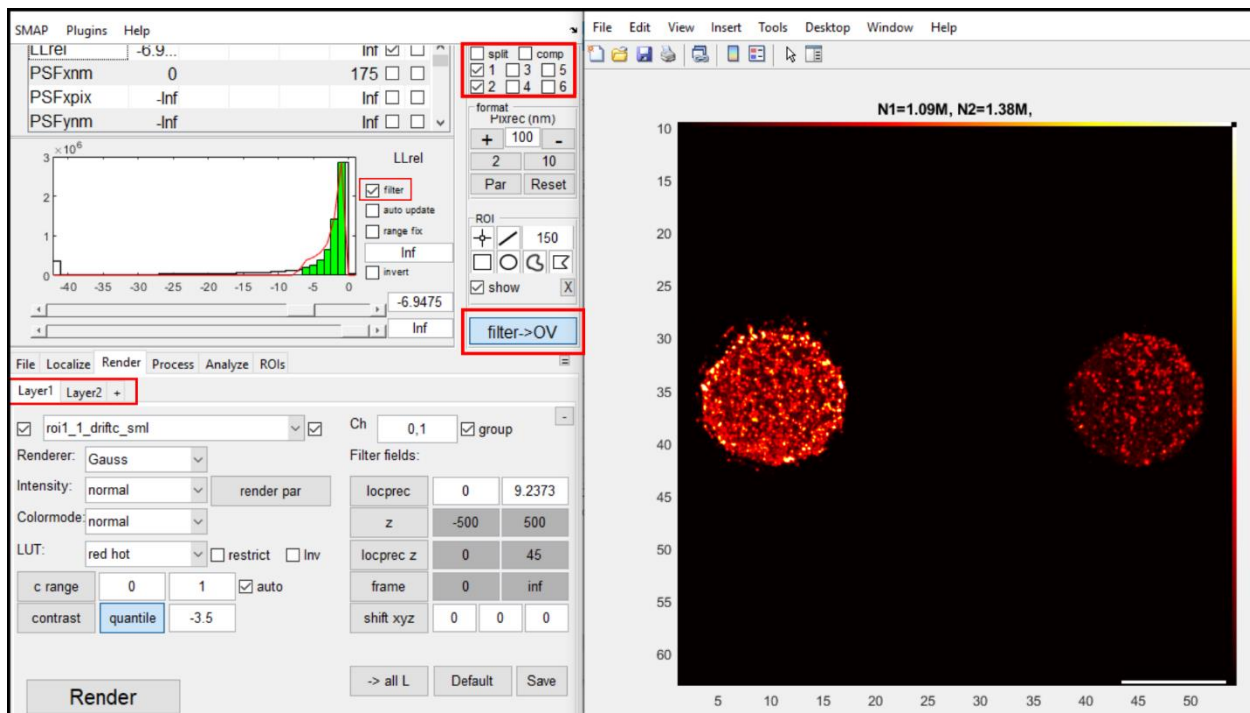

Figure 4: Shows the GUI to render the fitted dataset.
Supplementary Figure 4: Elliptical masks. **a**, Specification of the masks dimension, designed to be placed at an angle of 10° in the beam path (w: width, h: height, em: elliptical mask.). **b**, Picture of the four elliptical masks deposited on the glass window and housed in a 2D translation mount. **c**, Camera image of the BFP with stray light highlighting the masks and the holder.
1. Check in the SMAP GUI at the bottom of the [Render]. In order to remove incorrect localizations, rendering is done based on specific parameters according to Figure 4.
4. Ensure Layer1 is selected for display and also in the layer selection panel. Render based on the parameters similar to Figure 4.